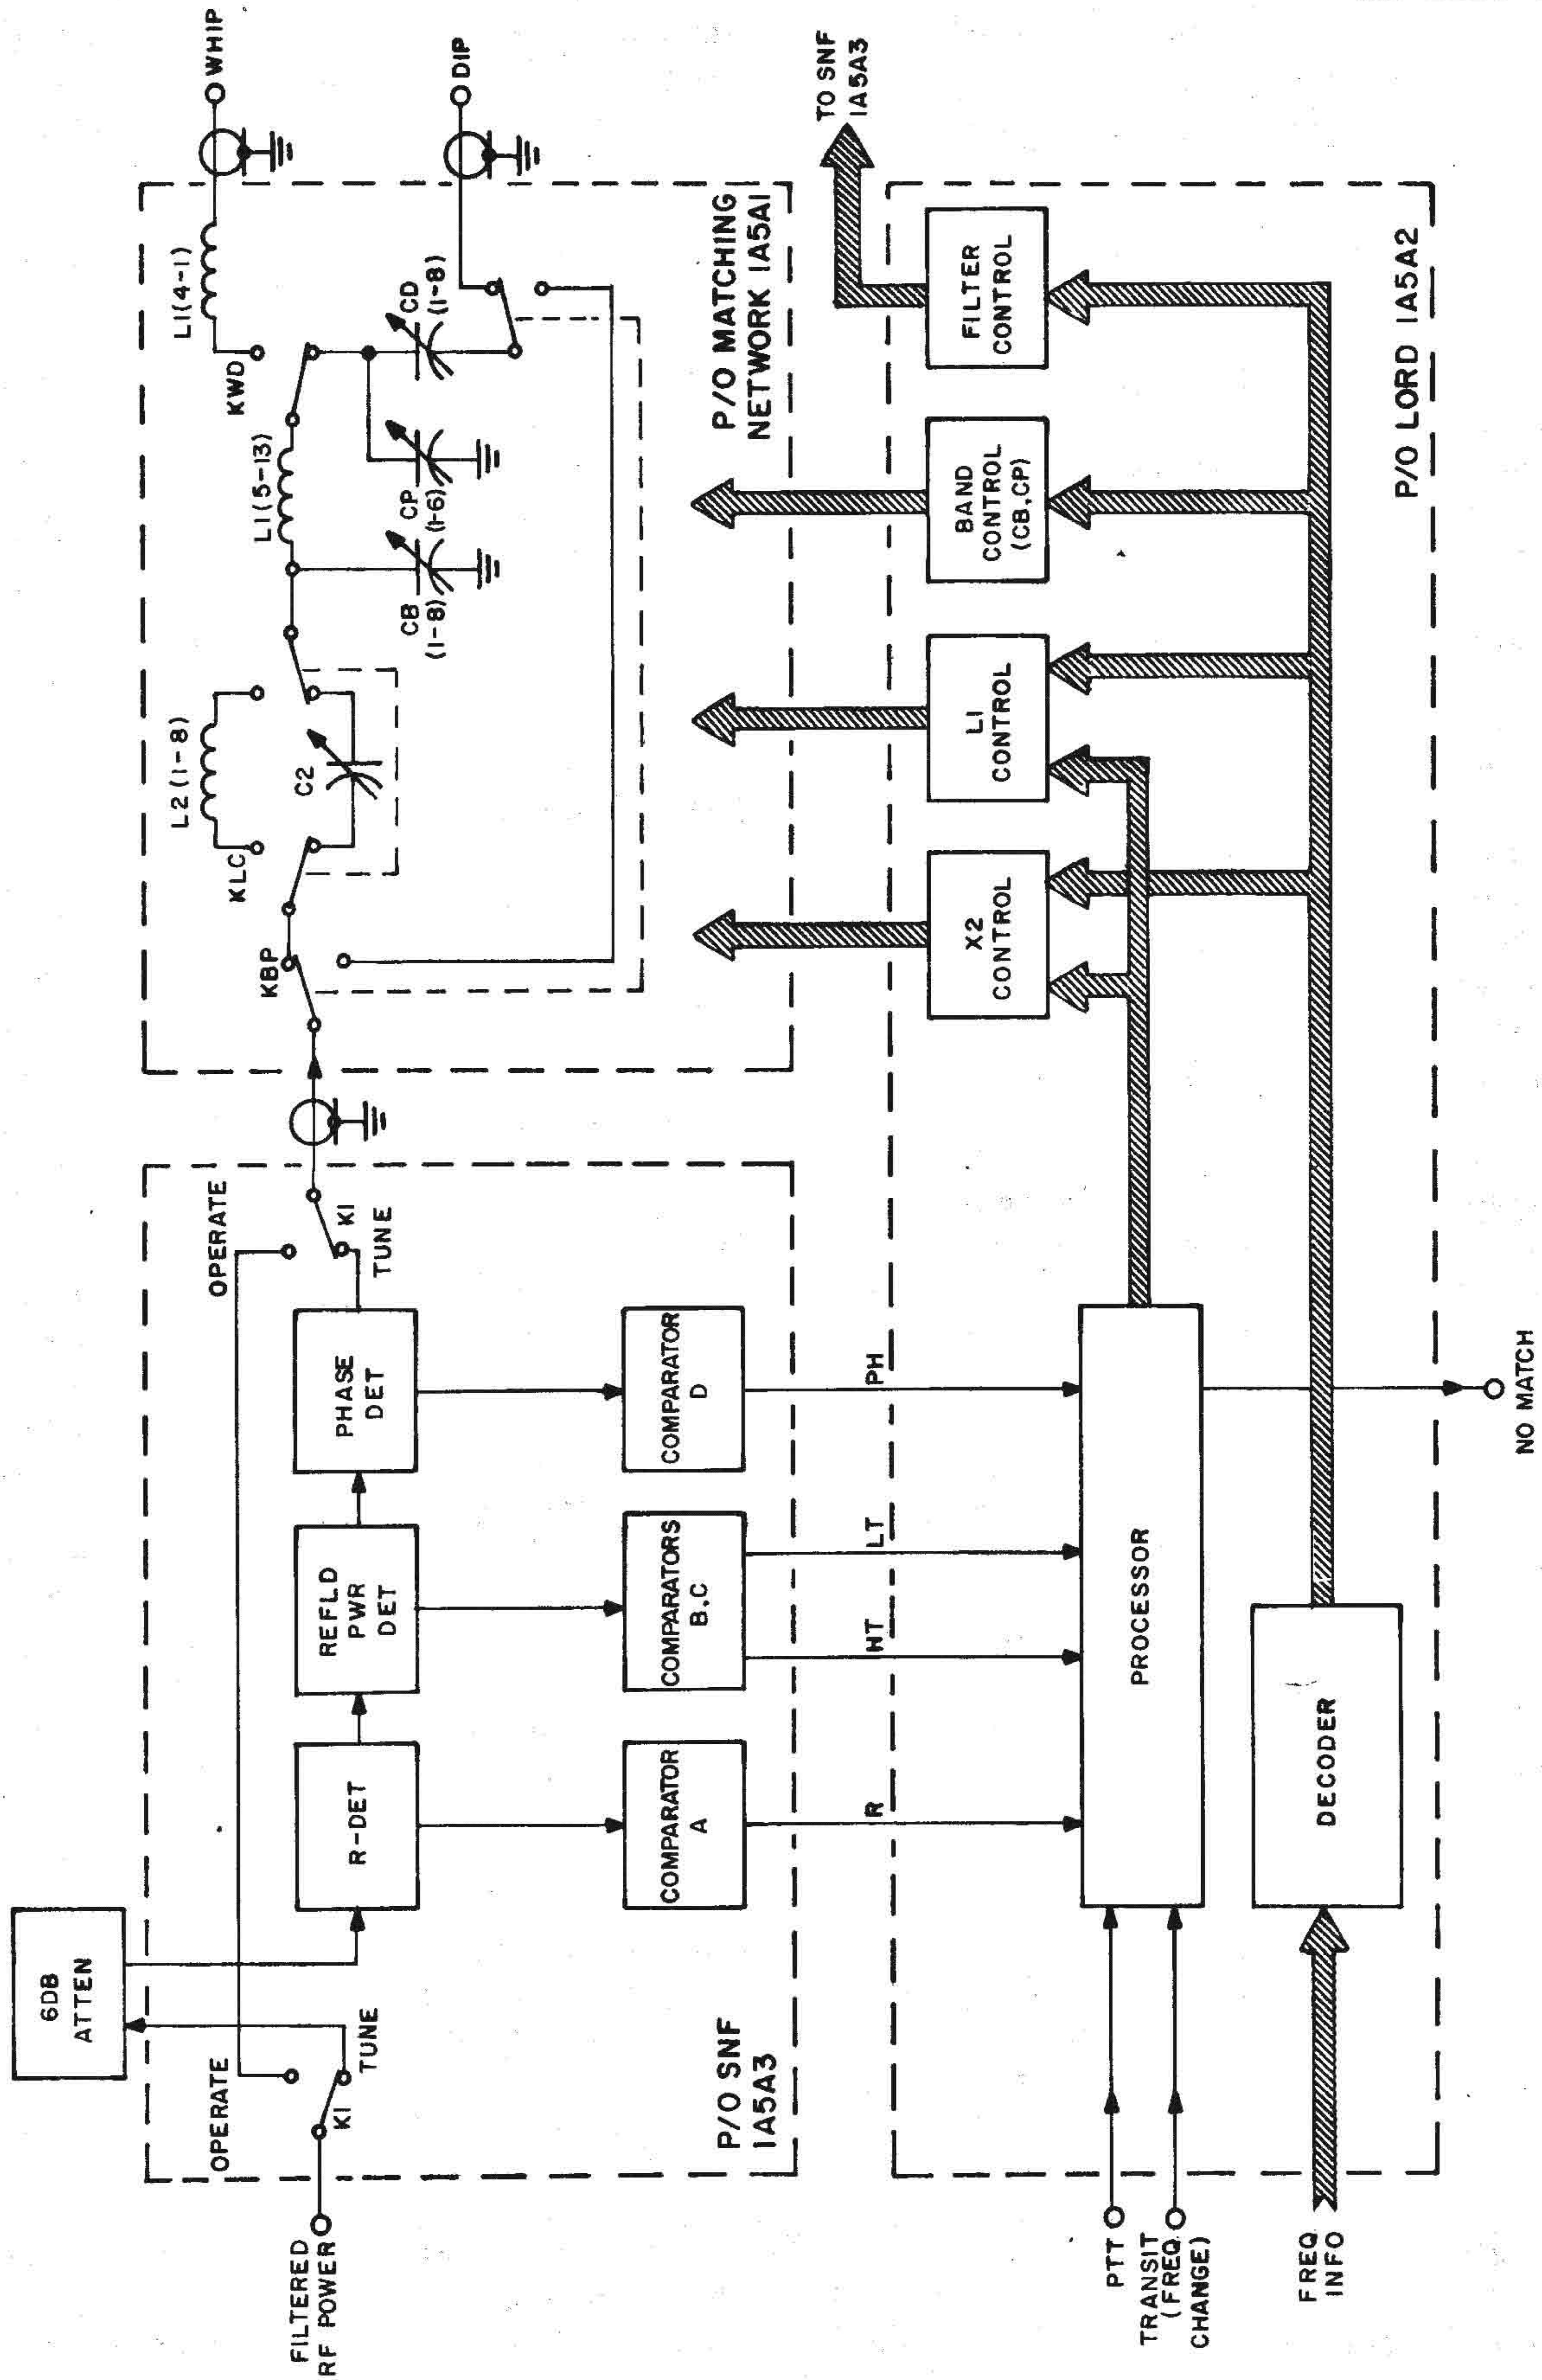

Fig. 2-27. Automatic matching system, block diagram
(fig. 2-27)
(fig. 2-27, 2-28)
(fig. 2-27, 2-29, 2-30)
a. Block Diagram Analysis (fig. 2-27, 2-29). Module SNF 1A5A3 contains the receive-transmit relay, tune-operate relay, bandpass filters, load sensors, and TX LEVEL and ALC detectors.